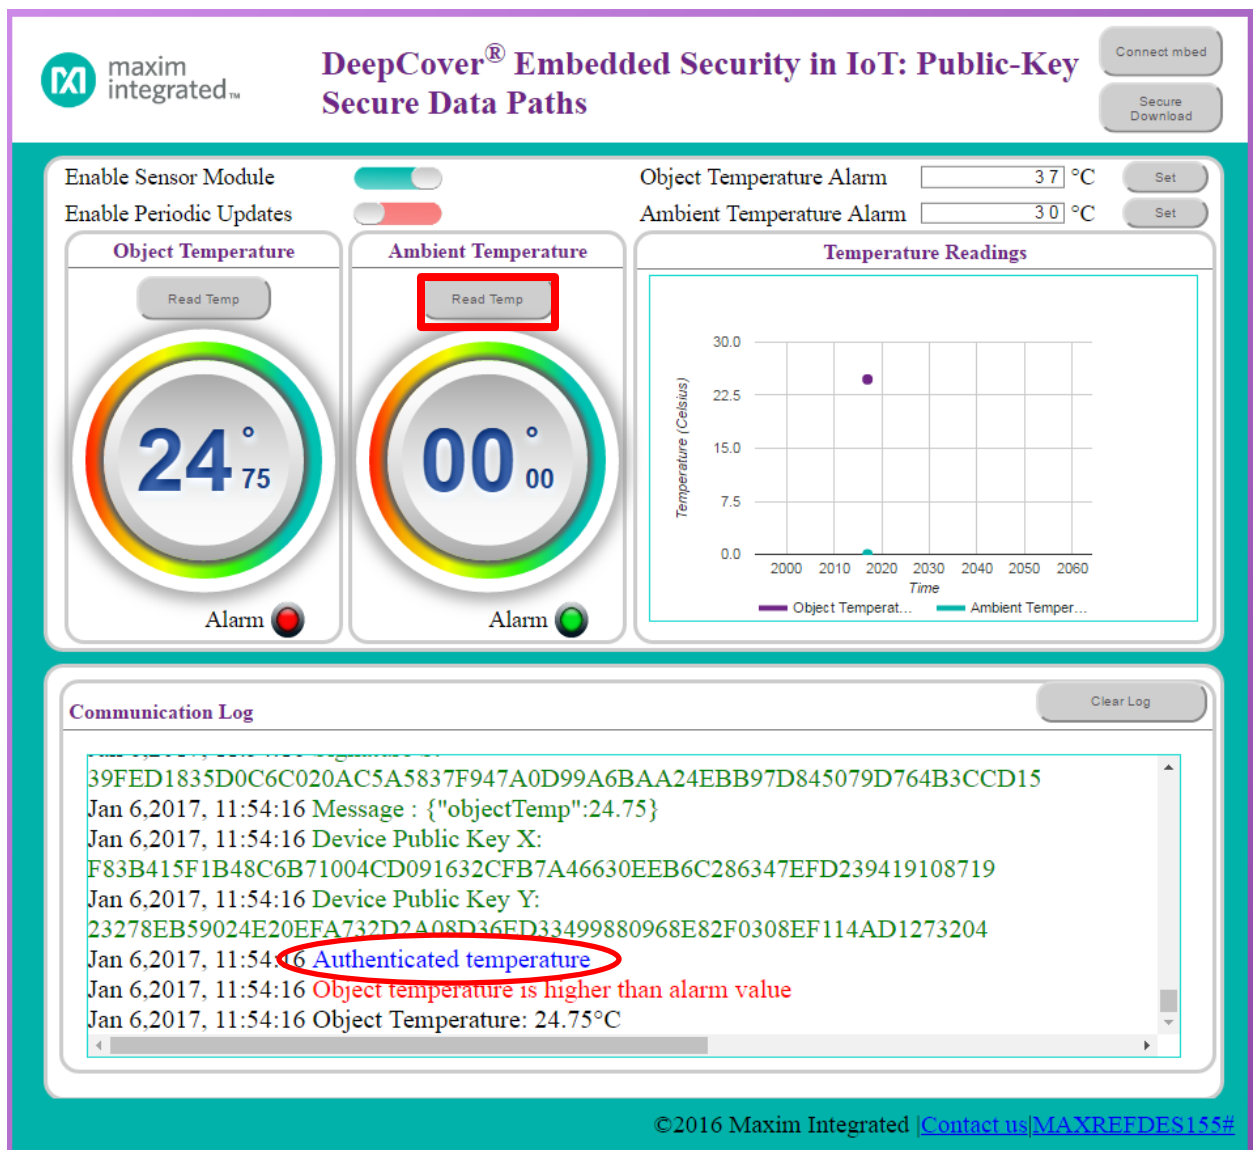

Figure 13. An authenticated temperature reading.
2. Click on the **Read Temp** button (Figure 13) and verify a temperature was read and is authentic.